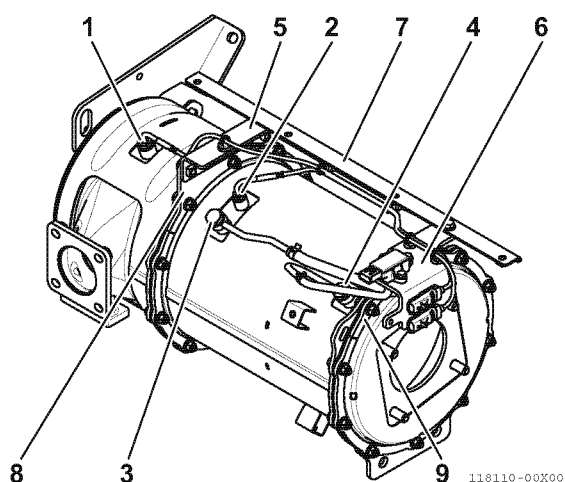
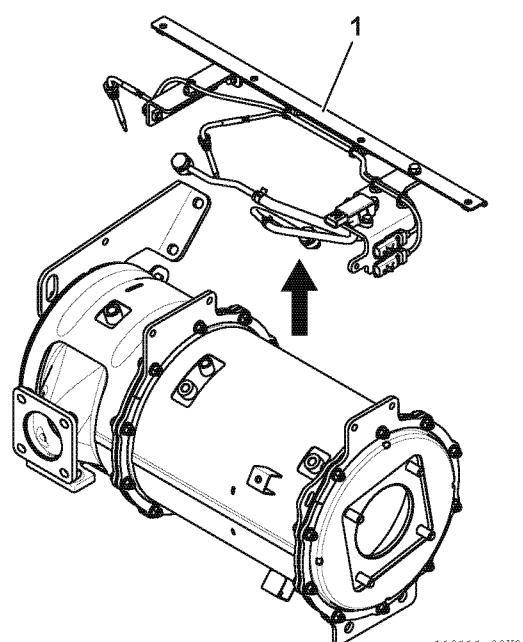

Fig.25-27
Fig.25-28
- 1 - Loosen the hexagon nuts (width across flat 17 and 14) of the DOC inlet exhaust temperature sensor (1, Fig.25-27) and intermediate exhaust temperature sensor (2, Fig.25-27), and remove the sensor.
- 2 - Loosen and remove the pipe joint bolts (3, 4, Fig.25-27) for the exhaust pressure. Discard the gasket.
- 3 - Leave the sensor bracket (5, Fig.25-27), pressure sensor bracket (6, Fig.25-27), and CW hose bracket (7, Fig.25-27) of the DM assembled together. Loosen the fixing bolts of the flanges (8, 9, Fig.25-27) of the DPF, and remove the sensors and sensor bracket assembly (1, Fig.25-28) with the exhaust temperature sensor wires and connectors, and exhaust pressure pipes, hoses, and sensors still connected to the brackets.